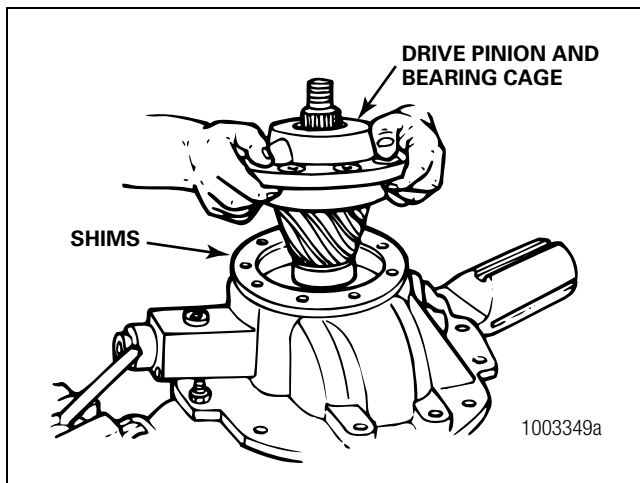

Figure 3.24
- If the bearing cage is tight in the carrier: Hit the bearing cage at several points around the flange area with a leather, plastic or rubber mallet. Figure 3.24.